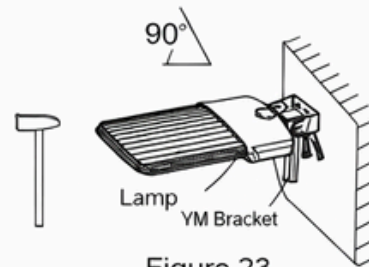

Figure 23
Step 3: Connect the fixture to the bracket and tighten the screws; connect the wires properly and put them in a junction box. (Figure 23)